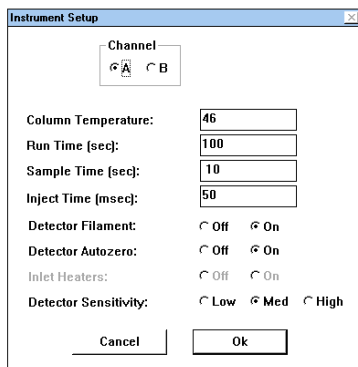

Figure 47 Instrument setup window
1. Open the Instrument Setup window (See Figure 47) and set the column temperature, run time, inject time, and detector sensitivity to appropriate values.